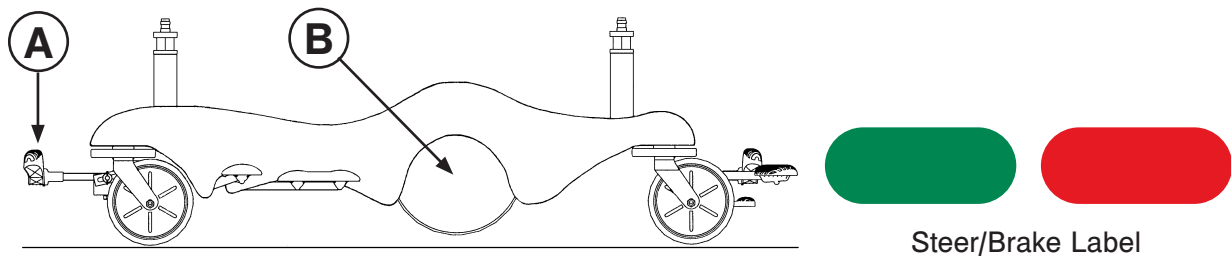

Figure 12: Neutral or Brake Position
When the brake/steer pedal (A) is in the neutral or brake position, the Big Wheel (B) is elevated approximately 3/4" and the stretcher rests on the four casters as shown in Figure 12. See page 21 for pedal operations.
With the pedal (A) in the neutral position, the stretcher can be moved in any direction including sideways as shown in Figure 12. See page 21 for pedal operations.